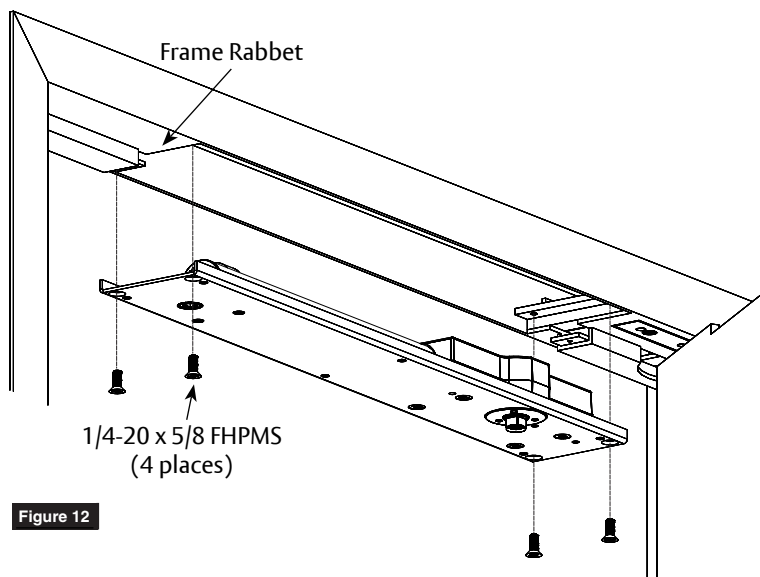

Figure 12
1. Install closer in prepped frame with four (4) 1/4-20 x 5/8" FHPMS mounting screws provided. (Figure 12)